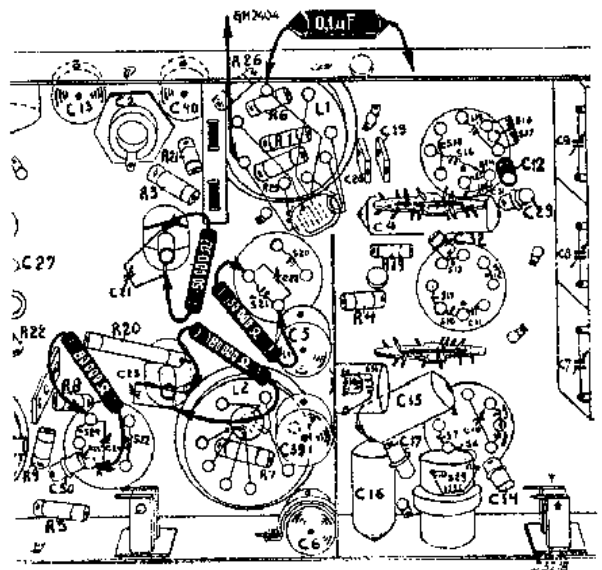

Fig. 3.
5. Connect 50,000 ohms resistance across C22 and 80,000 ohms across C23 (see Fig. 3).
8. Damp C21 with 50,000 ohms resistance and C24 with 80,000 ohms (see Fig. 3).
3. Connect aperiodic amplifier GM2404 to anode of L1 (see Fig. 3).
5. Earth the first grid of the mixing valve through a condenser of $0.1 \mu\text{F}$ (see Fig. 3).
11. Trim C12 for maximum output (see Fig. 3).